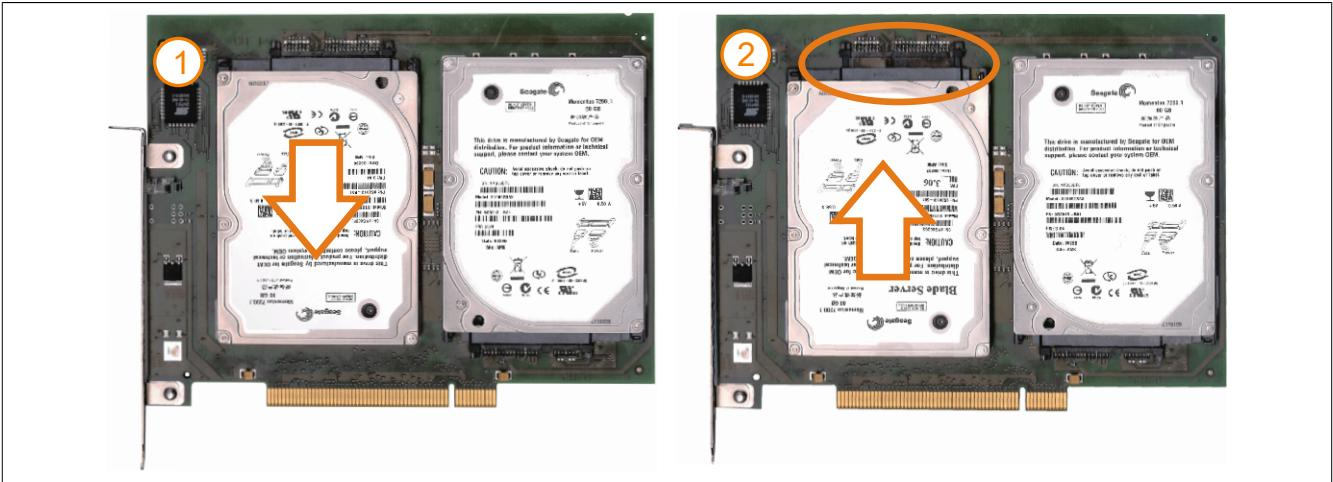

Figure 224: Hard disk exchange
6. On the front side, slide the hard disk down and away (Figure 224: Hard disk exchange - left image).
7. Insert the new hard disk carefully into the connector (Figure 224: Hard disk exchange - right image), being careful to only touch it on the front, and not on the top.